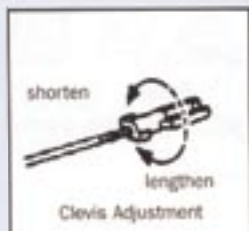

Figure 13A
- A. Set the transmitter trim adjustment levers (located beside and below the stick assemblies) to their center positions. Make sure the throttle stick is in the "down" position! Turn on the transmitter. **DO NOT PUSH THE SAFETY START BUTTON AT THIS TIME!** Adjust the control links (clevis) at the end of the elevator and rudder pushrods, so that when inserted into the control horns, both the control surfaces are level (neutral) as shown in **Figures 13A, 13B and 13C**. Turn the clevis clockwise to shorten it and counter-clockwise to lengthen it.